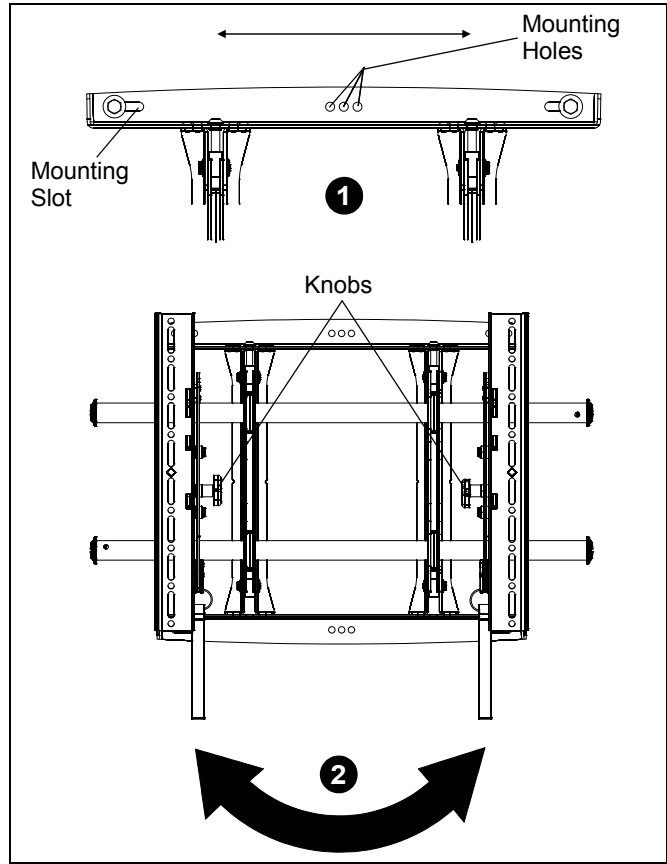

Figure 6
1. The wall bracket may be adjusted side to side at the point of attachment (mounting slots for dual stud installation, mounting holes for single stud installation). (See Figure 6)
2. The location of the left and right interface brackets may be switched, with the knobs on the MTM interface brackets facing the inside of the mount. (See Figure 6)